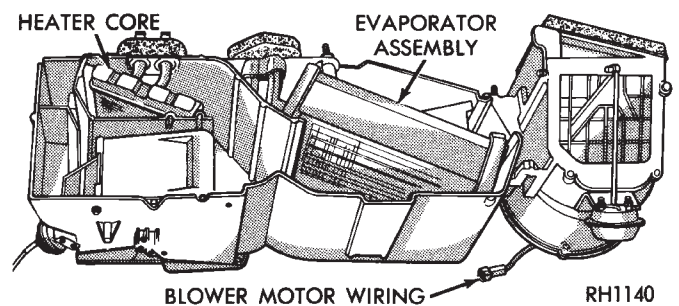

Fig. 23 Evaporator Heater Assembly
(7) Remove four screws attaching fresh/recirculation cover to unit and lift off cover (Fig. 23).
(8) Fresh/recirculating door may now be removed from its housing.